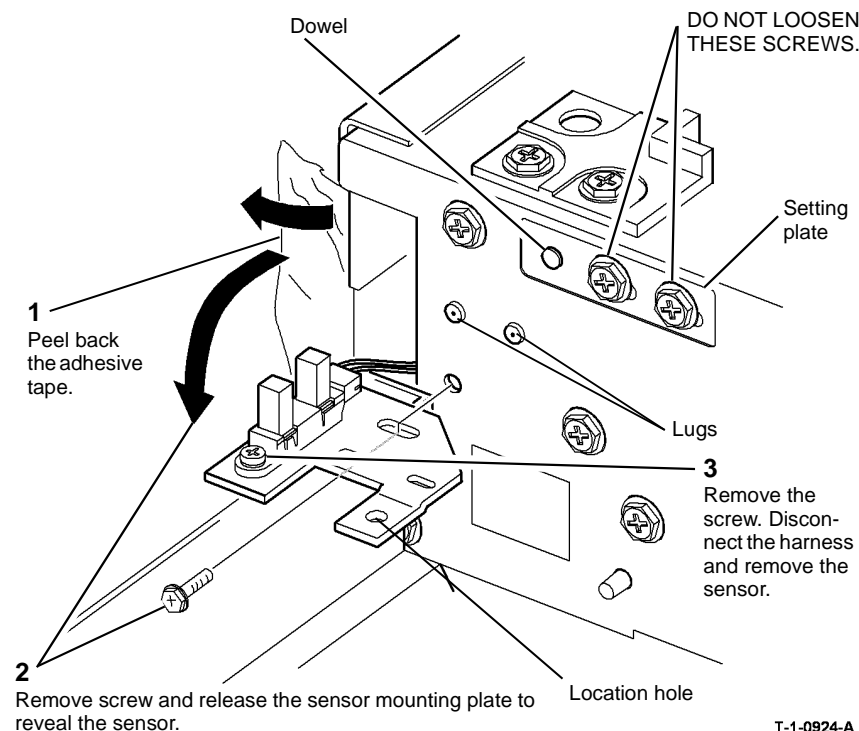

Figure 1 Scan carriage home sensor
Do not remove the document glass. Do not loosen the two screws securing the setting plate, shown in Figure 1.
4. Remove the scan carriage home sensor, Figure 1.
2. Figure 1, when mounting the sensor, ensure that the location hole in the sensor mounting plate is located over the dowel of the setting plate.